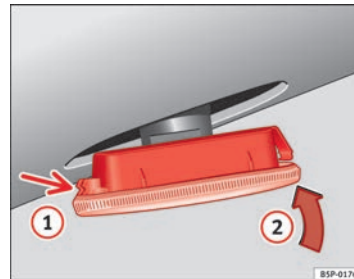

Fig. 222 Side turn signal
- First place the turn signal in the opening in the bodywork, fixing the tabs ⇒ Fig. 222, arrow ①.
- Insert the bulb as shown by the arrow ② ⇒ Fig. 222.